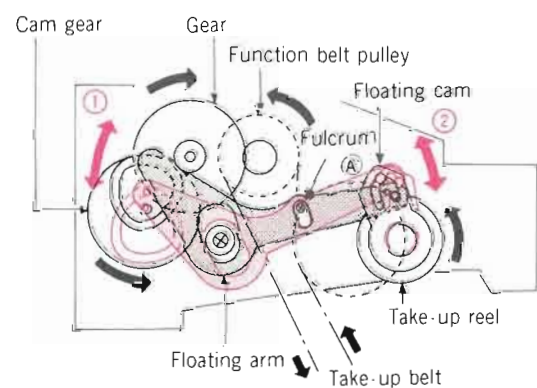
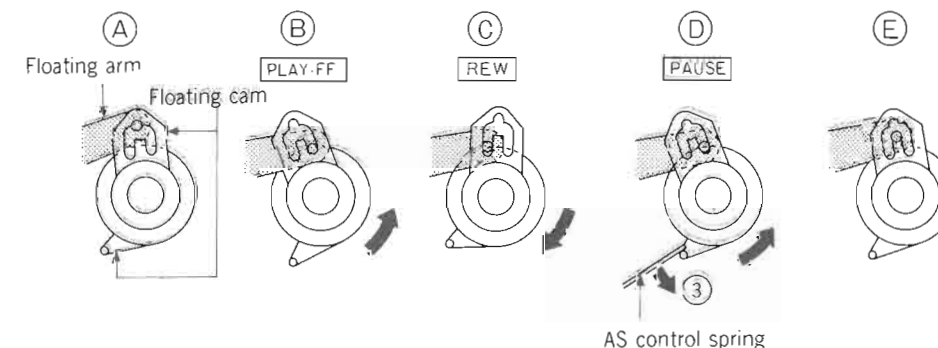
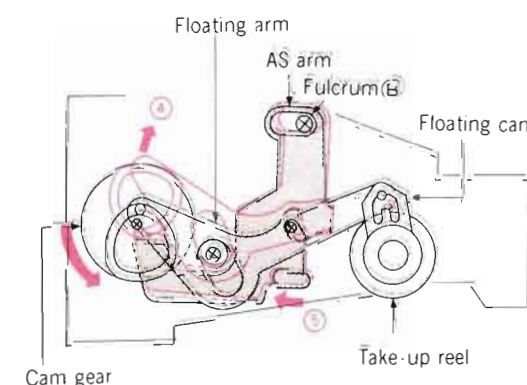

Figure 15
Figure 16
Figure 17
1) Figure 15 shows the tape-end detector for the auto-stop mechanism.
The Floating cam is provided on the same axis as the Take-up reel shaft, and it lightly touches the reel (by action of a spring). Utilizing the fact that when the Reel rotates, the floating cam faces in the direction of rotation, the floating movement of the Cam Gear and the Floating arm (which has its fulcrum at A) as shown in Figure 15) this movement is applied to this floating cam, to detect the end of the tape.
Shafts, which enter into the Cam of the Cam Gear and the shaft which in turn enters into the slide groove of the Floating cam, are provided at both ends of the Floating cam; the floating movement is carried out in the direction of arrow ① with its fulcrum at A) as shown in Figure 15, by means of the rotation of the Cam Gear.
The shaft of the Floating Arm, which enters into the groove on the Floating Cam, operates to slide and relieve the floating movement which is caused by the Cam Gear by means of this groove. When the Cam of the Cam Gear rotates to the position shown in color in Figure 15, the shaft of the Floating Arm on the Floating Cam side goes into the mode shown in A) of Figure 16.
Next, when the Cam Gear rotates to the position shown in black, the position of the shaft on the floating cam side goes into the mode shown in B) of Figure 16, during playback or fast forward, and C) during rewind. These slide grooves are determined by the direction of rotation of the reel.
2) When the tape-end is detected and the Floating Arm slides, the AS Arm (as shown in Figure 17) slides in the direction of arrow ⑤ with its fulcrum at B).
Incidentally, during Pause, since the reel is stopped, the auto-stop mechanism starts to operate. To prevent this, the Floating Cam is pressed in the direction of arrow ③ (take-up direction) by the auto-stop control spring as shown in D) of Figure 16, during Pause and Stop. (The AS (auto-stop) control spring is operated by the sliding of the Brake Plate; it is so designed that the AS control spring is released from one end of the Floating Cam and the Floating Cam faces in the direction of rotation of the reel, except during the Pause and Stop modes.) When the tape is finished and the reel stops, the Floating Cam side shaft of the Floating Arm slides between A) and E) in Figure 16. The width in which it slides is smaller than that between A) and B) or A) and C). When the Floating Arm slides up to point E) in Figure 16, the Floating Arm slides in the direction of arrow ④ in Figure 17 with the Floating Cam as the fulcrum. The tape-end is detected by means of this sliding of the Floating Arm.